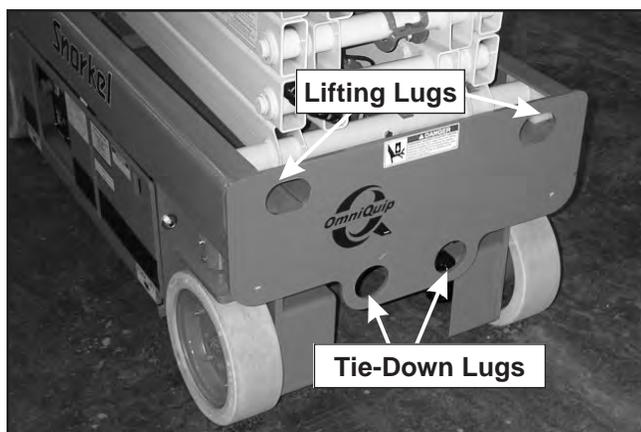

Figure 10.4—Tie-Down and Lifting Lugs
7. Attach the winch to the tie-down lugs (refer to Figure 10.4) on the front of the chassis.
2. Inspect the lifting lugs (refer to Figure 10.4) to make sure they are free of cracks, rust, and are in good condition. There are two lugs on the rear of the chassis and two on the front. Have any damage repaired by a qualified service technician before attempting to hoist the machine.